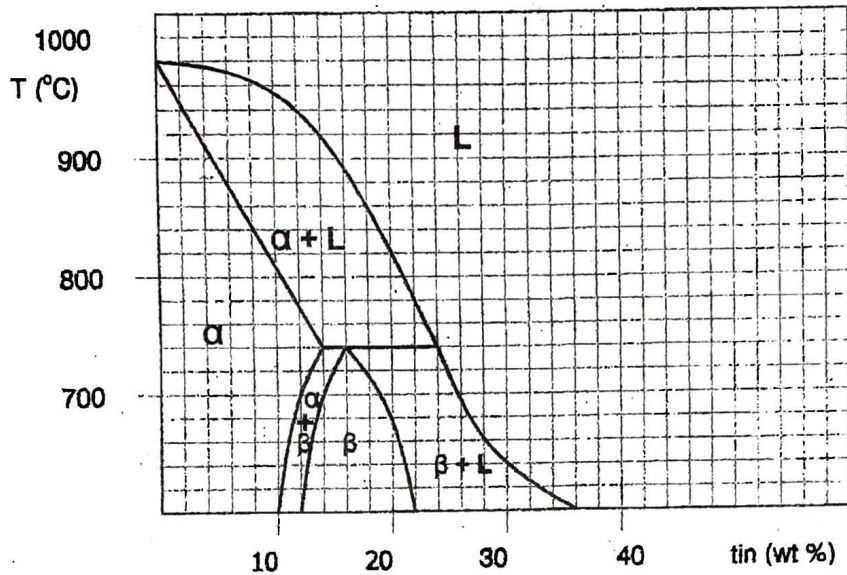

Figure 1
T.1. Figure 1 shows a part of the silver-tin thermal equilibrium diagram. Consider an alloy which contains 18% by mass of tin, cooling under equilibrium conditions: